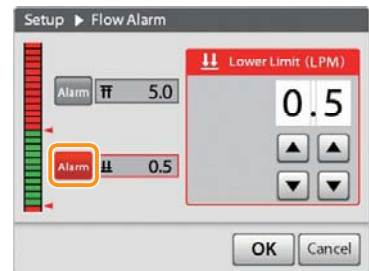

Figure 3-4
4. Tap [Alarm] of the lower limit. (Figure 3-4)